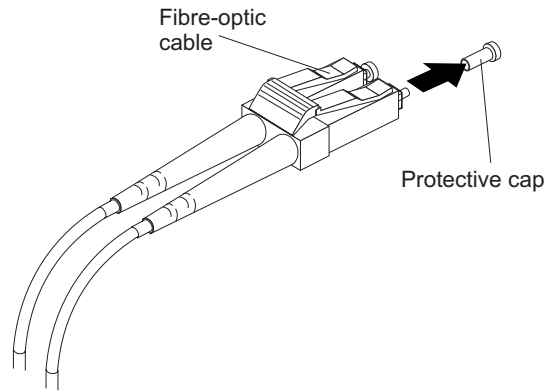

Figure 39. Removing fiber-optic cable protective caps
3. Remove the two protective caps from one end of the LC-LC cable, as shown in Figure 39 on page 63. Save the protective caps for future use.